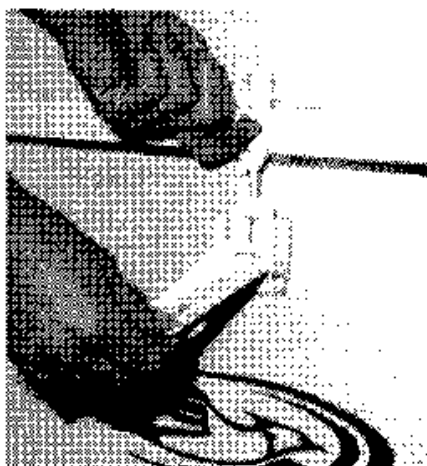

Fig. 1
**CAUTION:** Never attempt to crank up the roof until all four corner latches are unlocked and free. Fig. 1. **NEVER LIFT ROOF WITH CARGO IN PLACE.**